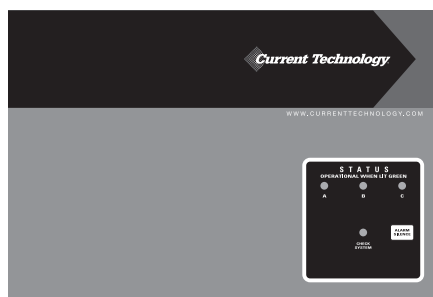

Figure 6
► If your ISM has M1X Standard Monitoring (See Figure 6):
The M1X Standard Monitoring is equipped with a dual set of Form “C” dry contacts (Figure 6). The relay containing the contacts is in the “alarm condition” or normally closed when the power is off to the unit, when the unit is encountering loss of power to one or more phases, or the ISM is encountering more than 40% loss of capacity due to internal fuse operation. Test the operation of the Form “C” contacts by de-energizing the ISM and checking the state of the contacts with a continuity tester or observing the effect of the contacts on the user provided remote alarm circuits.